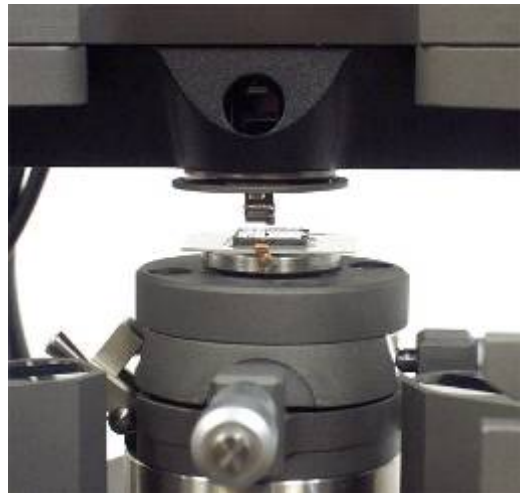

Fig. 2-112
- Looking from a side convey the sample to the probe at the distance of 0.5-1 mm (Fig. 2-112);